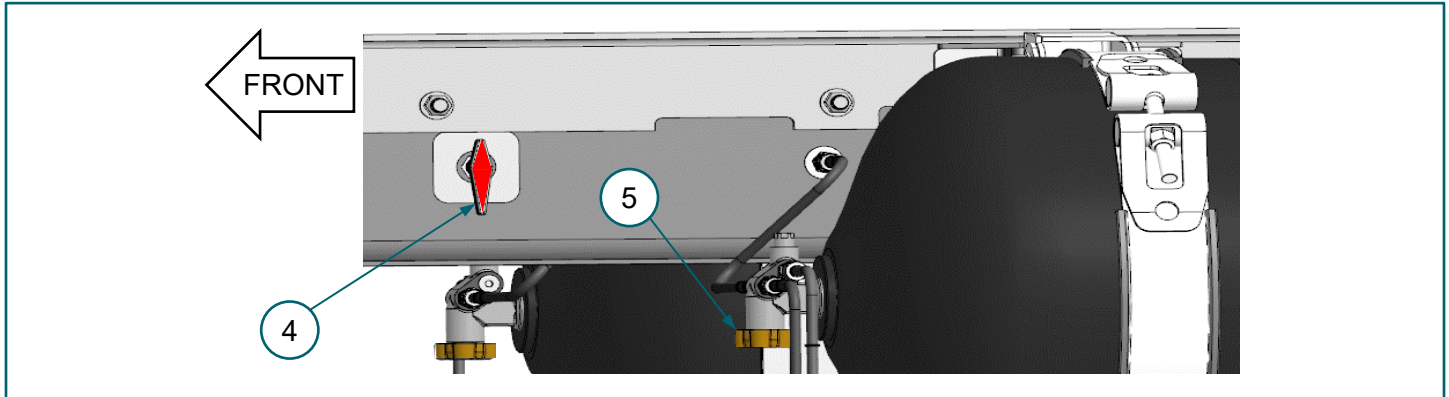

FIGURE 4-1. (4) 1/4-turn manual shutoff valve, (5) DS cylinder manual valve
1. Verify DS manual cylinder valve is open. **FIGURE 4-1**